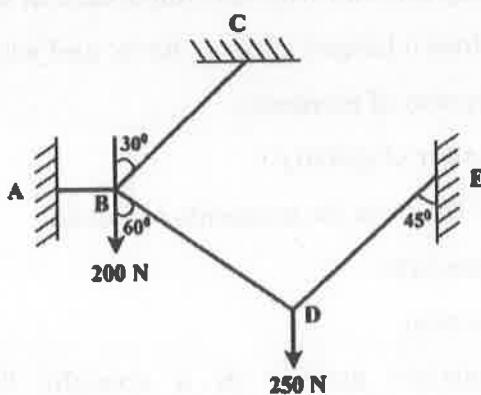

Figure 12 (b)
- (b) A system of connected flexible cable shown in figure.12 (b) is supporting two vertical forces 200 N and 250 N at point B and D. Determine the forces in various segments of the cable.